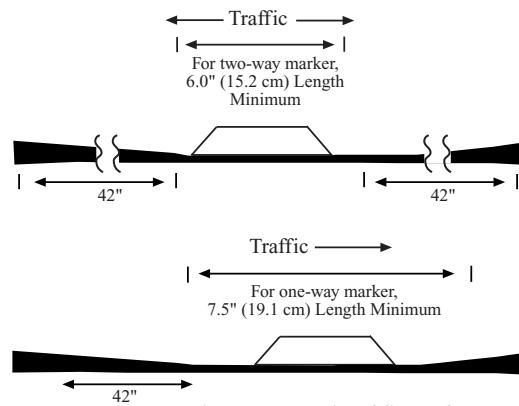

Figure 4: Lengths of flat surfaces at the bottom of the recessed grooves for marker applications.
4. Application surface - The marker application area of the groove must have a smooth/flat surface that is a minimum of 6 inches (15.2cm) long for a one-way application and a minimum of 7.5 inches (19.1 cm) for a two-way application (**Figure 4**). If a coarse tooth pattern is present, increase the number of blades and decrease the number of spacers on the cutting head.